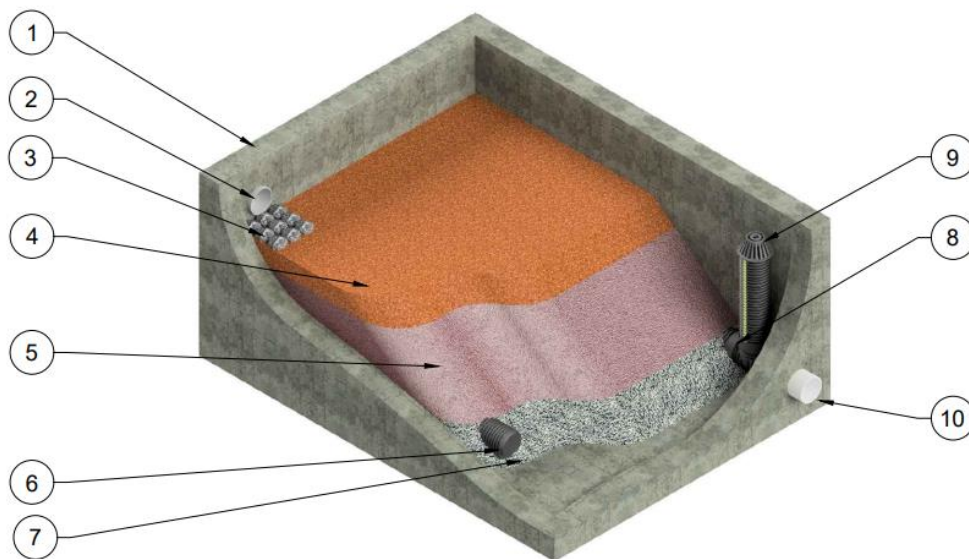
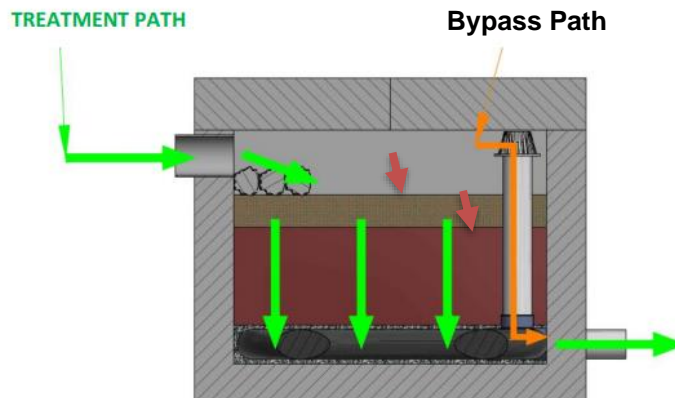

Figure 1: EcoStream System Components
Figure 3: Treatment flow pathway shown in profile view
- 1) Stormwater runoff enters the unit through a throat inlet or subsurface influent pipe. (Item 1 in Figure 1) Energy dissipation stone is present to reduce the flow velocity. (Item 2 in Figure 1)
- 3) Treated water enters the perforated underdrain pipe (Item 6 in Figure 1) and then exits the EcoStream through the outlet pipe. (Item 10 in Figure 1) A flow control orifice is included in the underdrain piping to limit the flow rate through the system, to ensure adequate residence time within the system. (Item 8 in Figure 1)
- 4) During peak storm events where the treatment capacity of the system is exceeded, runoff will pond up and begin to flow through bypass standpipe. (Item 9 in Figure 1.) Figure 3 above shows the treatment flowpath through the unit in green, and also shows the bypass flow path in orange.